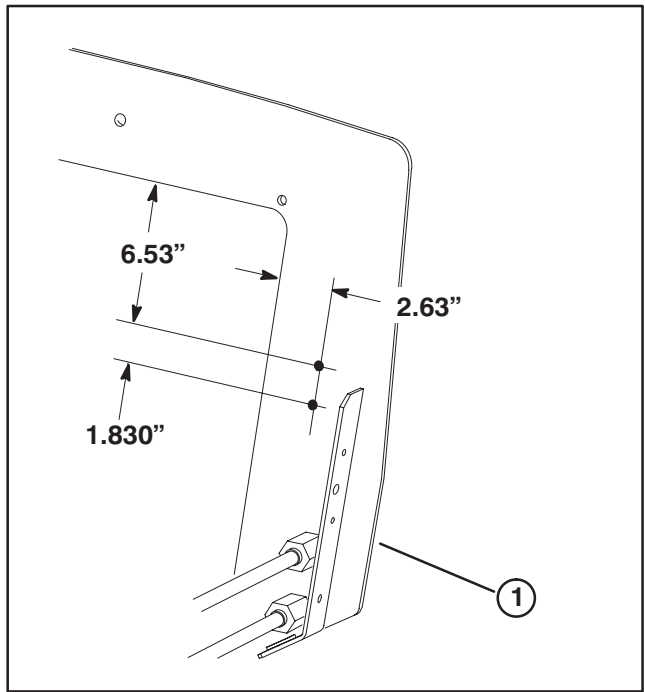

Figure 7
9. Using dimensions shown in figure 7, locate and drill (2) .406" dia. holes in left side of radiator mount. Drill holes from the rear of the machine.